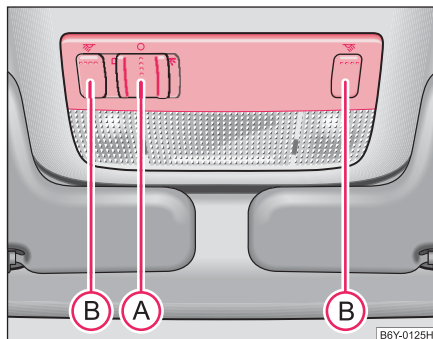

Fig. 34 Detail of the headliner: front interior lighting
- Press the switch (A) ⇒ fig. 34 to the right into position .